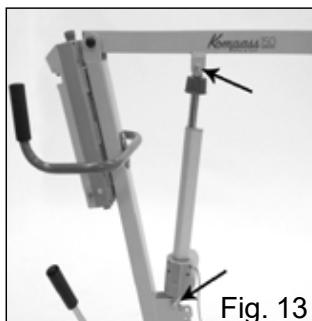

Fig. 13
4. Remove the two actuator mounting bolts from the mast boom. Fit the actuator into it and secure it with the two bolts previously removed. Cover the bolt heads with the provided plastic cap. (Fig.13)